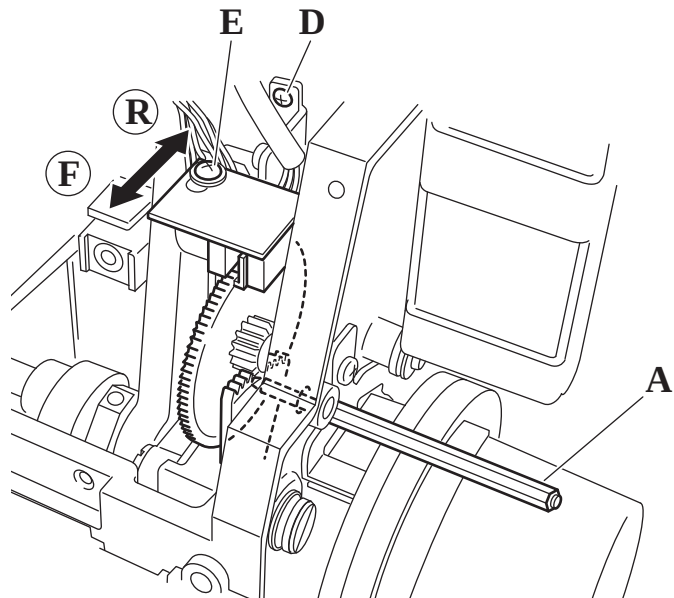

Fig.2
- 2-3. Remove hand wheel again and put Gauge **No.11692** on to Main shaft until touching with Roll pin(Part **No.800703**) on the Main shaft as shown in Fig.2.(drawing is located at the center of Page 22b) and the Gauge **No.11692** should be applied as follows:
- a) Right side of the Gauge formed a right angle should touch, its inner side, with outside of right part of EN-Sensor.(Fig.2, "h")
- b) Turn the slit-plate in the normal direction until the slit plate stops after left end of projected part of slit-plate touches with left side(inner side) of the gauge formed a right angle as shown in the drawing Fig.2. "i".
1. Loosen the two set screws **"D"** (Fig.2). One of the set screw located behind a drawing (Fig.2) and lower position.
3. Tighten the set screws **"D"** (Fig.2) and pull out the Guage pin **"A"**, after securing proper instllingof Stitch length unit. At the working test, if st itch length appears as shorter while LCD display shows stitch length **"4"** and DF **"1"**, loosen the screw **"E"** (Fig.2) and adjust the position of sensor in the **"R"** direction, so that it may appear larger stitch length. Tighten the screw **"E"** after obtaining proper position.
4. On the contrary, if stitch length becomes larger than required length, sensor's position should be adjusted in the **"F"** direction (Fig.2) and tighten the screws **"D"** after securing right position.
- 2) Before putting the guage on the needle plate, turn the handwheel in the normal direction until the "L2" needle point enter into the needle hole of needle plate and feed dog must be down under the needle plate surface. Then put the gauge on the Needle plate shown in the Fig.2 and adjust the position of DECO UNIT as follows.
Note: This work, with the gauge, must be performed without any force, in order to have a proper result in which Yellow Decorative Thread Guide has **6mm** height from the surface of needle plate and center of three thread holes of Blue and Yellow Decorative Thread Guide coincide each other as well as center of three corresponding needles uprightly. (Fig.2)